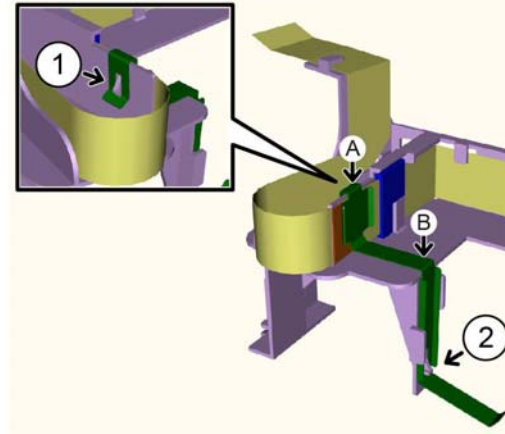

Figure 11 Cable replacement
2. Connect the FFC cable as shown in **Figure 11**.
- a. Push section A of the spring and hook it to the tab (1) of the guide.
- b. Push section B of the spring and hook it to the tab (2) of the guide.